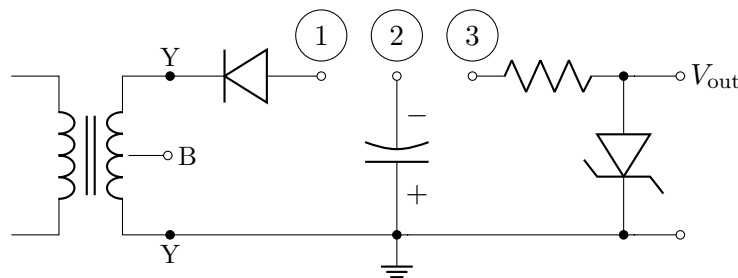

Figure 3: Half-wave rectifier with Zener voltage regulation
- The sequence of steps below show how an AC waveform is rectified, filtered, and then regulated to create a DC voltage supply. Assemble the half-wave rectifier shown in Fig. 3 using the full 6.3 V rms output of the transformer, leaving terminals ①, ② and ③ open to start. Sketch the circuit in your lab notebook including values/identifiers for the components.